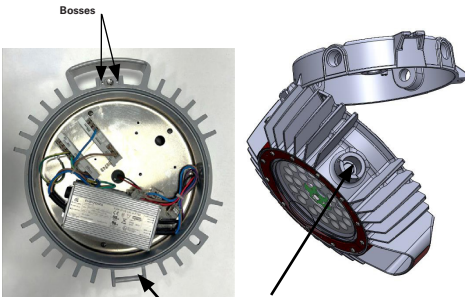

FIGURE 6
2. Close all unused conduit entries with conduit plugs provided. To prevent galling and to ensure watertightness, lubricate conduit plugs with Eaton's Crouse-Hinds series HTL lubricant before installing, and secure wrench-tight with at least five (5) full threads engaged. Torque plugs to 42-52 ft.-lbs. (57-71 N-m) for 3/4" and 20mm plugs and 58-68 ft.-lbs. (79-92 N-m) for 1" and 25mm plugs.
3. Hang LED luminaire on the cover module hinge hook. See figure 6.
5. Close housing onto cover module, making sure that all wires are safely inside housing. Tighten captive closing screw to 30 in-lbs. (3.4 N-m). Ensure two (2) bosses on housing are in contact with cover module. See figure 6.